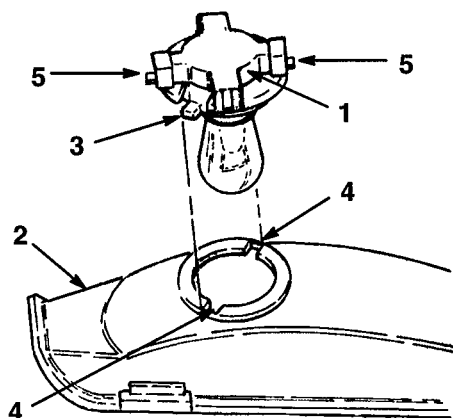

Figure 32
3. Rotate the bulb holder 1/4 turn counterclockwise and remove it from the reflector (Fig. 32).